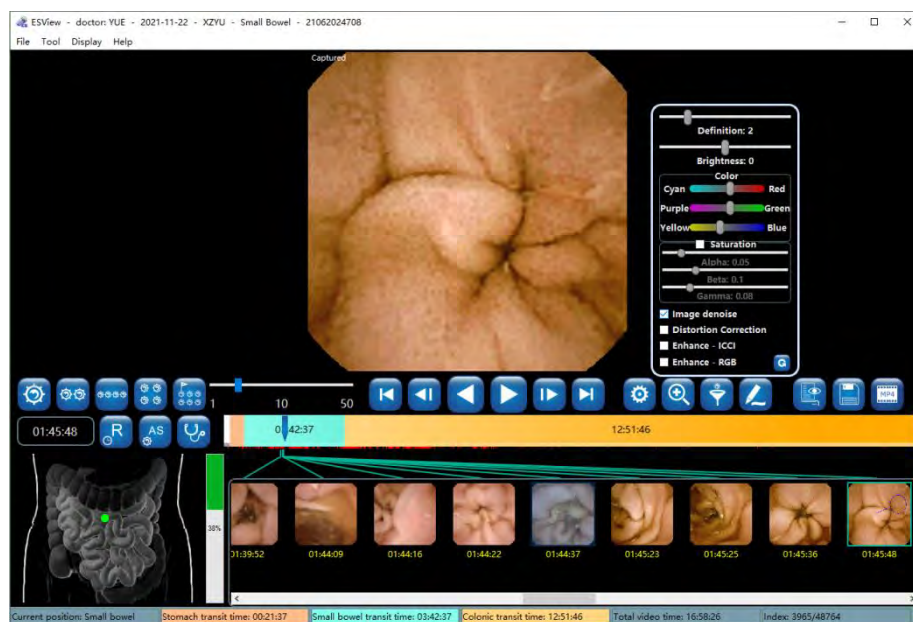

Figure 4-32: Image Denoise
- ESView software is equipped with image denoise algorithm. Check the “Image denoise” box and the effect as shown in Figure 4-32. To undo the denoising, uncheck the “Image denoise” box.